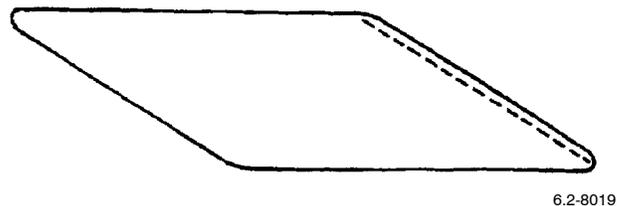

Figure 5. Turn Material Inside Out
d. Turn inside out, slide foam pad in opening, and sew closed (Figure 5).